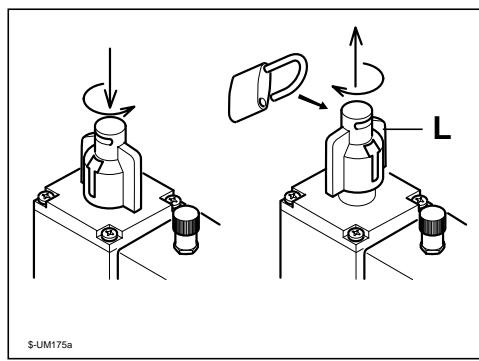

Fig. 5.3
- on Pneumax filter units, turn the knob L (fig.5.3) and padlock it.